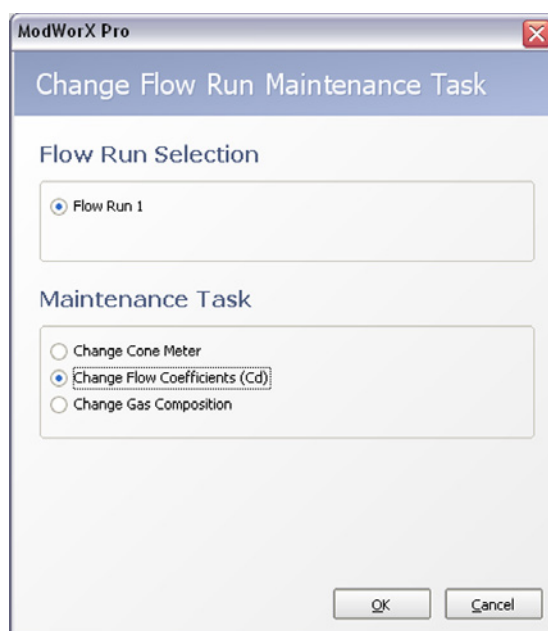

Figure 10.8
1. If Change Gas Composition is not displayed in the Maintenance Task field at the top of the Maintain Flow Run screen, click on **Change Task**. The Change Flow Run Maintenance Task dialog will appear (Figure 10.8).